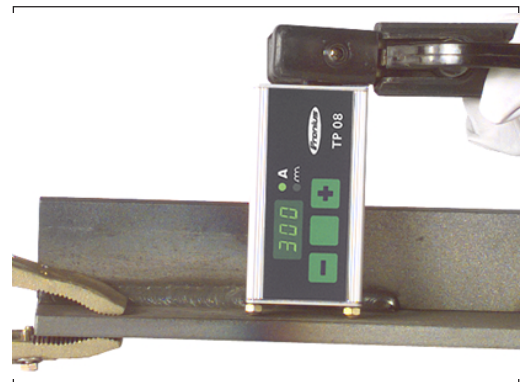

Fig. 2 TP 08 remote-control unit
- (1) **Display** ... Indicates the actual value of the "Welding current" or "Arc-force dynamic" parameter.
- (2) **Welding current parameter**
- (3) **Arc-force dynamic parameter**
- (4) **" - " button** ... decreases the value of the selected parameter
- (5) **Parameter selection button** ... for selecting either the "Welding current" or "Arc-force dynamic" parameter
- (6) **" + " button** ... increases the value of the selected parameter
- (A) **Contact screws** ... for placing down onto the workpiece (as shown in Fig. 2)
- (B) **Pin for electrode holder** ... for clamping the electrode holder onto